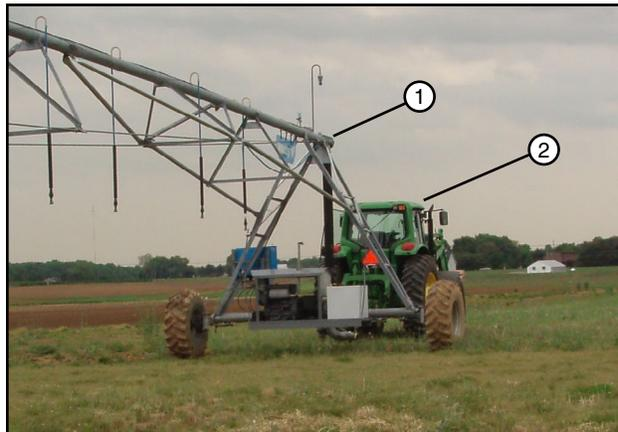

Figure 66-2 1. 2 Wheel Linear
5. Attach the tongue to the towing unit. See Figure 66-2.